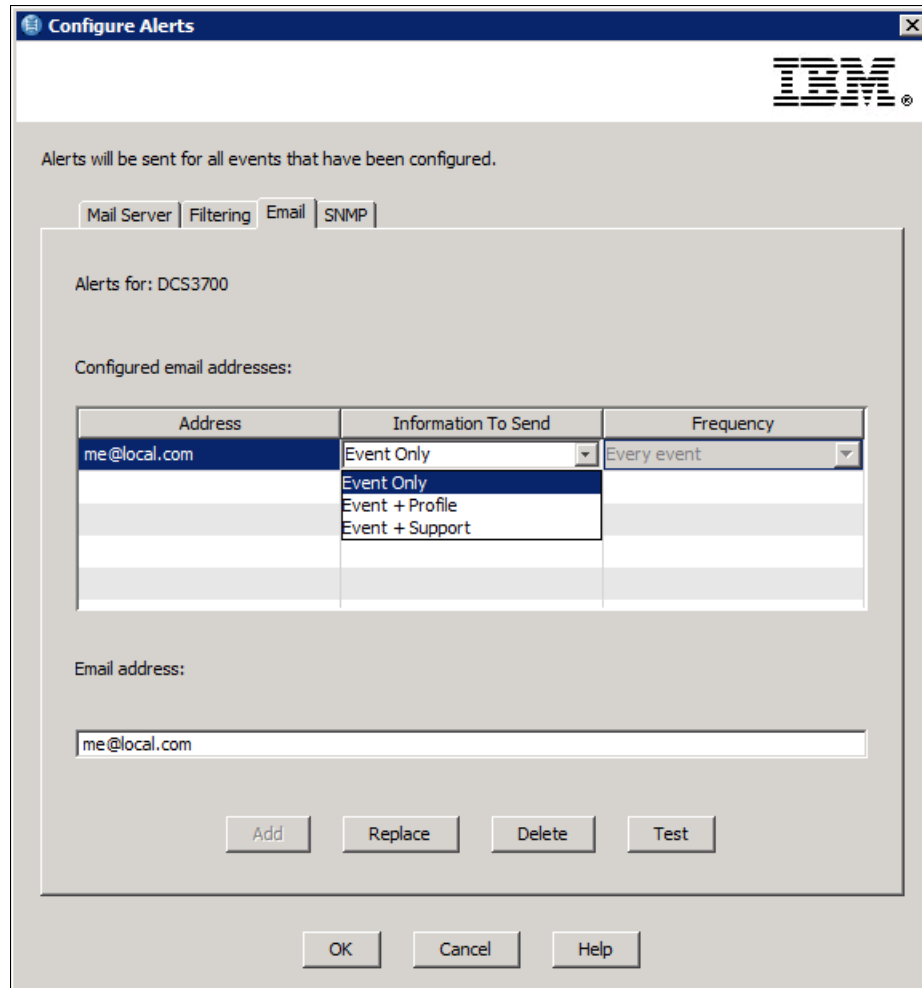

Figure 5-16 Configure Alerts - defining email address
3. Select the **email** tab to configure the email address to which the alerts are sent. Enter the email addresses and click **Add**, as shown in Figure 5-16.